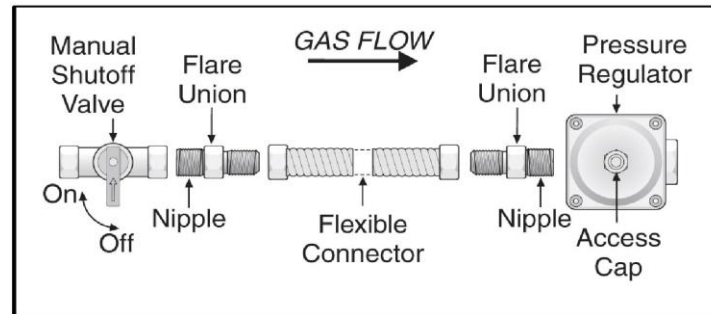

Figure 14
- 4) The gas intake connection of the appliance has a “male thread.” When making the connection, take care not to apply stresses of any kind to the appliance. Over-tightening may crack the regulator resulting in a gas leak and possible fire or explosion (see Figure 14).
- 5) Screw the regulator cap back into the regulator and re-attach the regulator to the nipple and flare union (see Figures 14 and 23).